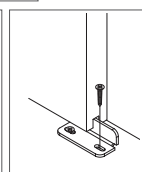

Figure 8
5. Install the second 1" Phillips screw (provided) using a drill with a Phillips bit (Figure 8).